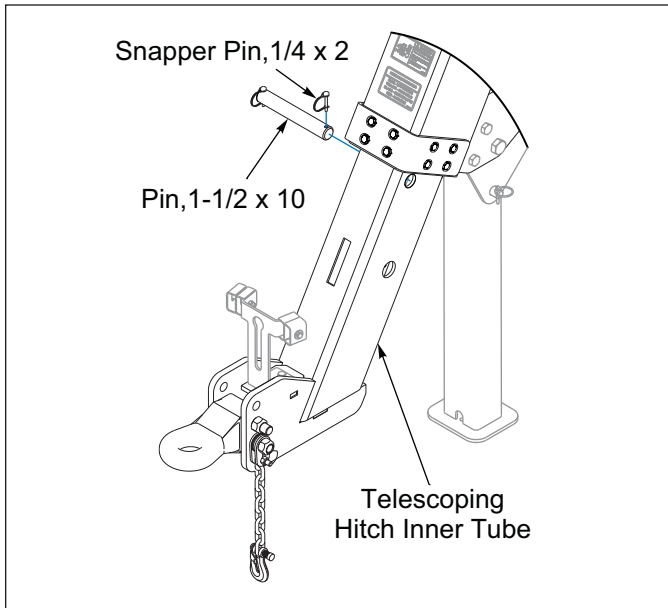

Figure 3-9: Telescoping Hitch Transport Lock Engaged
6. Re-install Telescoping Hitch Transport Lock Pin. **See Figures 3-9 and 3-10.**
6. Install Telescoping Hitch Transport Lock Pin. See Figure 3-9.
6. Install Telescoping Hitch Transport Lock Pin. **See Figure 3-9.**